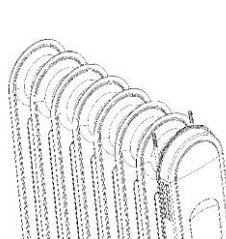

Figure 5
- Turn over the radiator to have access to bottom panel. Install the bracket (figure 5).